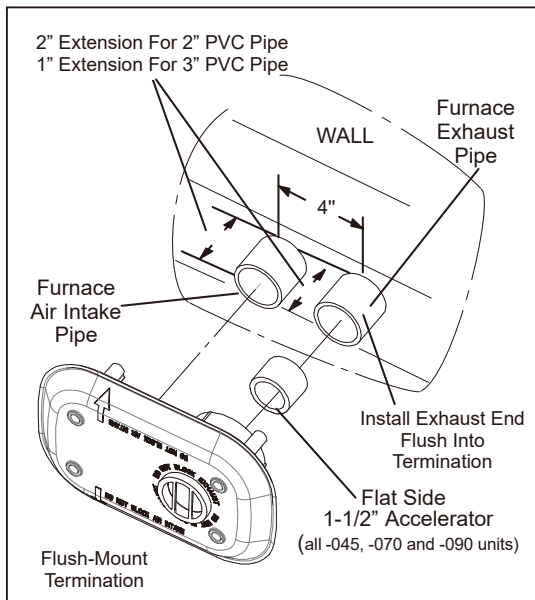
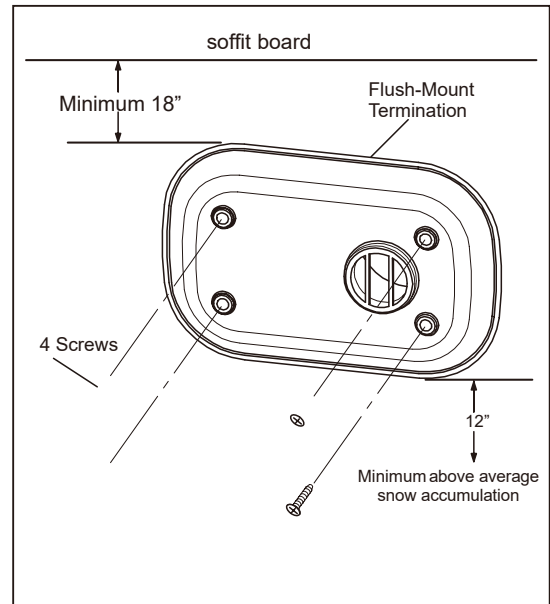
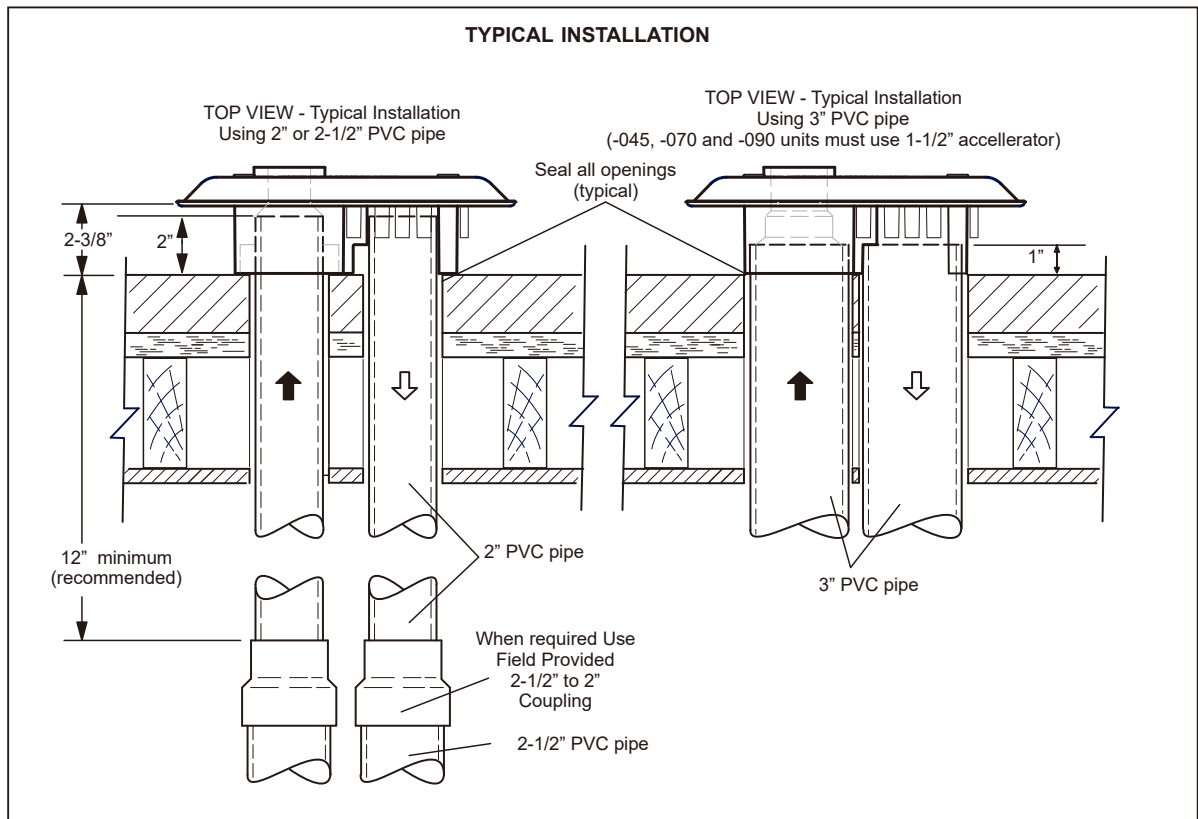

Fig. 7-18
Fig. 7-19
Fig. 7-20
5. When determining pipe length, include the length of exhaust and intake pipes that extend beyond the wall and are flush into the flush mount termination. For 3" pipe add an extra inch to the overall length. For 2" pipe add an extra 2" to the overall length. See Fig. 7-18.
6. The 1-1/2" accelerator must be used for all unit installations. Fully insert and glue the accelerator (flat side first) into the 2" exhaust opening. See Fig. 7-18.
7. Install the intake pipe and exhaust pipe through the holes drilled in step 4 and into the flush mount termination. Exhaust pipe may be glued but it is not necessary. See Fig. 7-18. Seal all openings as indicated in Fig. 7-20.
8. Secure the flush-mount termination to the wall using the provided screws and anchors or field-provided screws if applicable. See Fig. 7-19. Termination should be flush against the wall as shown in Fig. 7-20.